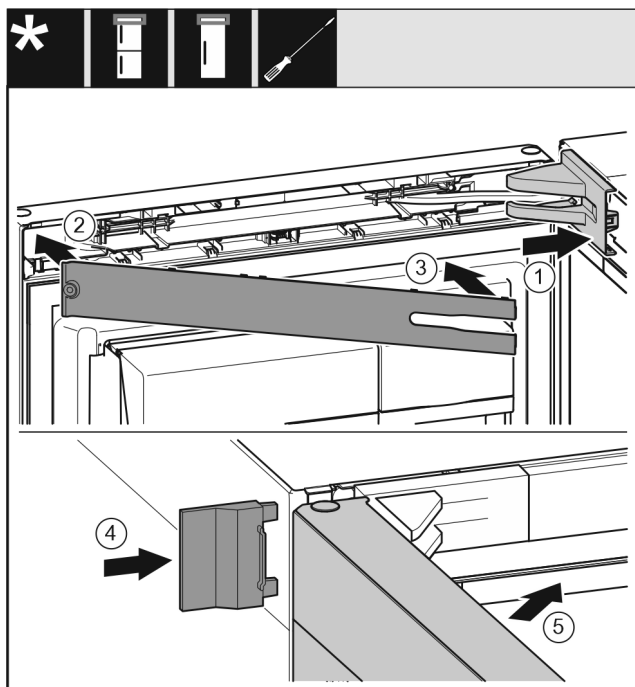

Fig. 71
- ▶ Put the swap bearing block cover Fig. 71 (1) on and engage, push apart carefully if required.
- ▶ Fit the trim Fig. 71 (2).
- ▶ Swivel in the cover Fig. 71 (3) and engage.
- ▶ Push the outer cover Fig. 71 (4) on.
- ▶ Close the upper door Fig. 71 (5).